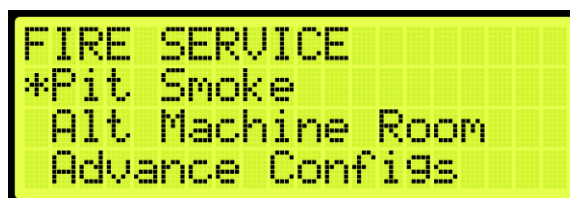

Figure 553: FIRE SERVICE Menu – PIT Smoke
- From the FIRE SERVICE menu, scroll and select PIT Smoke (See Figure 553).
2. From the FIRE SERVICE menu, scroll and select PIT Smoke (See Figure 553).